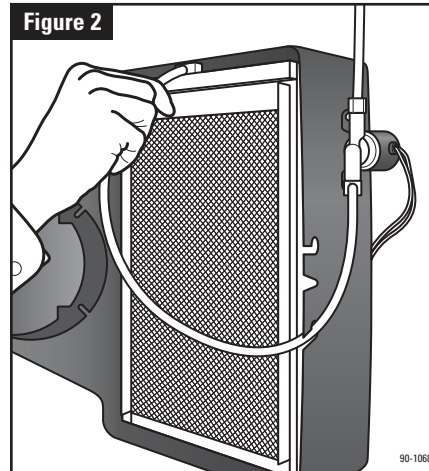

Figure 2
6. Reinstall the evaporative assembly back into the base, with the bottom of the scale control insert (6) sitting firmly in the inside of the drain spud (9). Snap into place. If evaporative assembly does not snap into place, reverse the assembly. Push the feed tube back into the water distribution tray. (See Figure 2) Put the front cover back on. If the nameplate (11) is upside down, remove it and rotate the nameplate so it is right side up, and snap back into place. Turn damper handle (8) to the open position "WINTER" for the heating season, or closed position "SUMMER" for the cooling season.